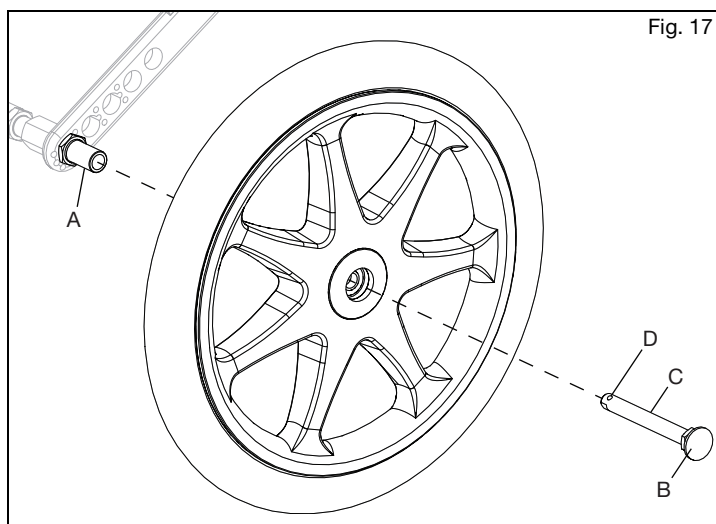

Fig. 17
- a. Push in the quick release button (Fig. 17:B) on the axle (Fig. 17:C) to allow the locking balls to retract. Make note of the difference between the extended and depressed position of the axle release button and its effect on the locking balls (Fig. 17:D) on the other end of the axle.
- c. Push on the quick release button again and slide the axle into the axle sleeve (Fig. 17:A).